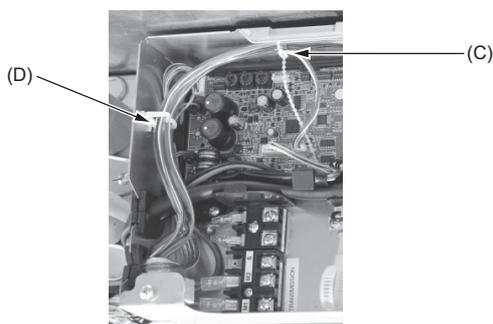

Fig. 6-15
- Place the excess portions of the i-see Sensor and signal receiver junction wires in the electric component box in the wire clip as shown in the diagram, and secure the wires together with the fastener. (Fig. 6-15)